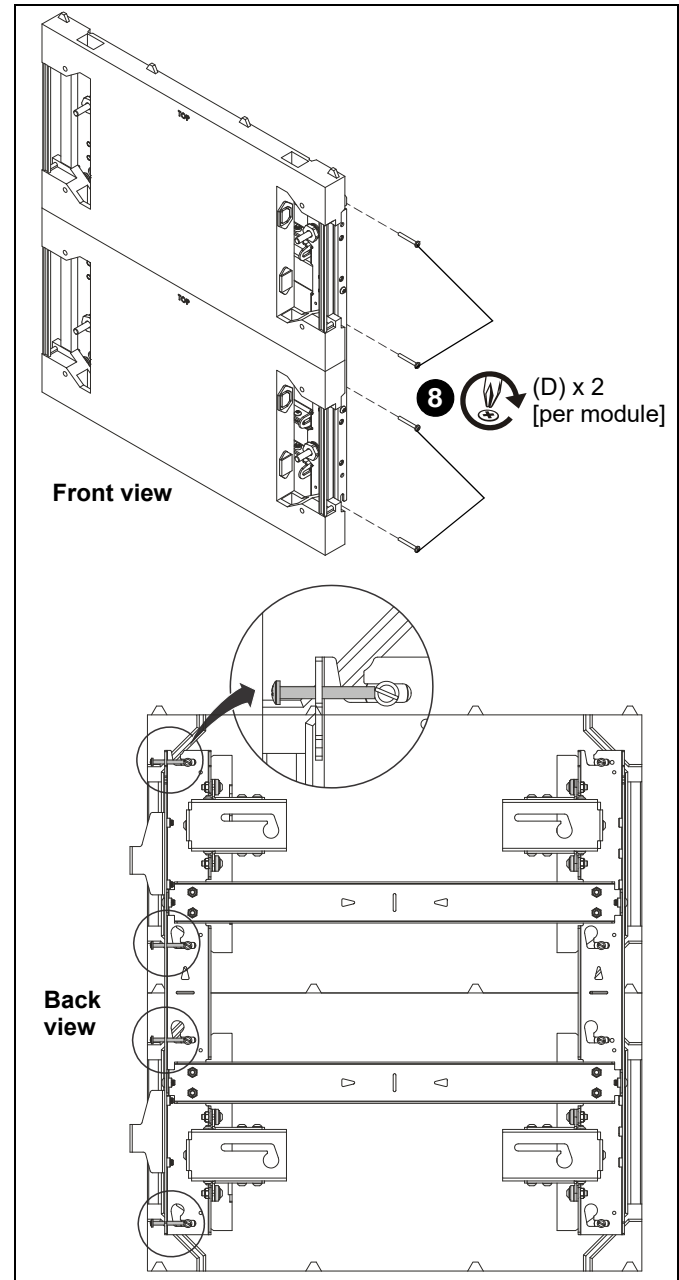

Figure 17
8. Install two 10-24 x 1-1/2" Phillips head cap screws (D) **per housing** on far right column of mounts. (See Figure 17)